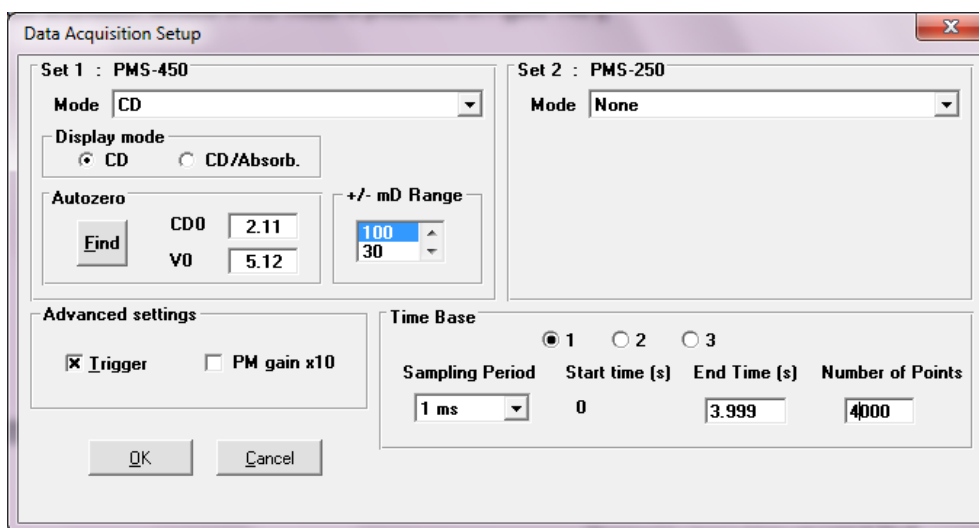

Figure 150 : Data acquisition setup window
- The data acquisition window in CD mode is presented in Figure 150.